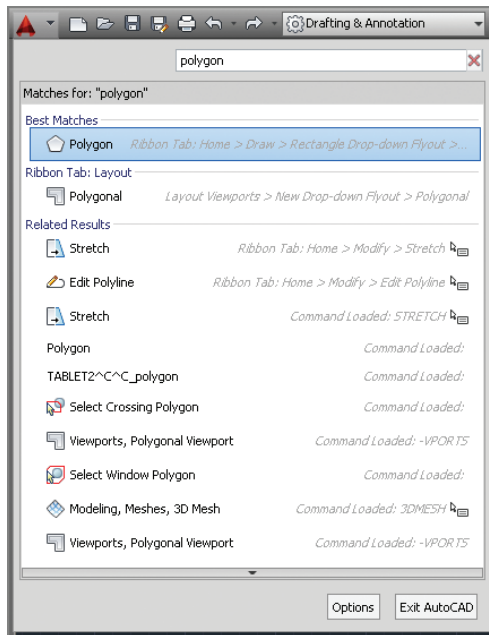

FIGURE 1.2 Searching for commands in the Application menu
1. Click the Application menu. Type **polygon**, and observe that the text appears in the search box at the top of the Application menu. The search results (see Figure 1.2) list many related AutoCAD commands. Search is useful when you're not sure how to access a command in the interface or what its exact name is.